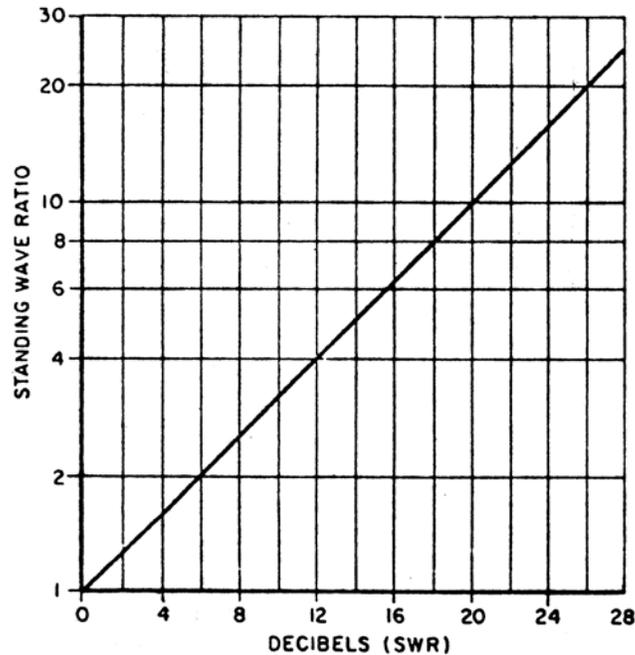

Figure 5.
High SWR (Above 10:1): A reading is possible on the VSWR meter for SWR greater than 10. If the indication is more than 10 after step j (3), change the RANGE switch to the next 10 db position (now two steps, or 20 db, above the initial setting). Read the SWR on the 1 to 4 SWR scale and multiply the reading by ten. Here, again, a db reading may be converted to SWR using Figure 5. The reading used for converting is the amount of db above the initial RANGE switch setting in step 3.